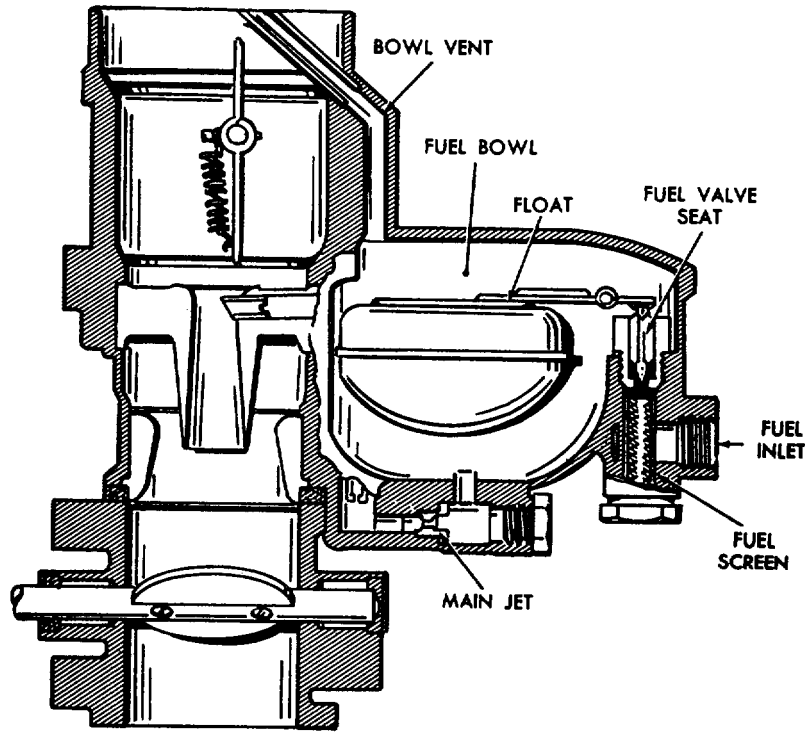

Figure 22. Cutaway view of carburetor.
a. *Description* (fig. 22). The carburetor is a single downdraft unit, incorporating both a primary and secondary venturi. A fuel screen in the fuel inlet can be removed for cleaning or replacement by unscrewing the hex head plug that holds the screen in place. Fuel enters the bowl by passing around the fuel valve. The fuel valve assumes a more or less fixed opening, as regulated by the float, sufficient to maintain a proper level in the fuel bowl equal to the fuel demand of the engine. At slow idle, the idle adjusting needle controls the idle mixture delivery. Turning the